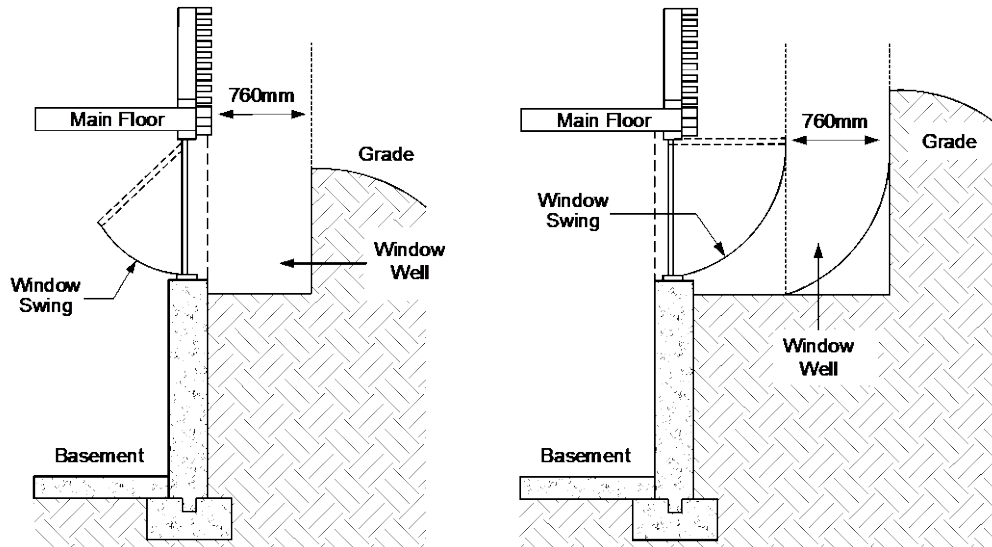

Figure 2 - Egress Windows
- Length and height of wall (measured from grade to ceiling height) (see Figure 2, Item 1)
- Distance to property line (measured perpendicular to wall face) (see Figure 2, Item 4)
- An engineered design will be required for new windows openings or enlarged openings in the foundation as per Bylaw No. 2003-7, Subsection 2.5 (see Figure 2, Item 3)